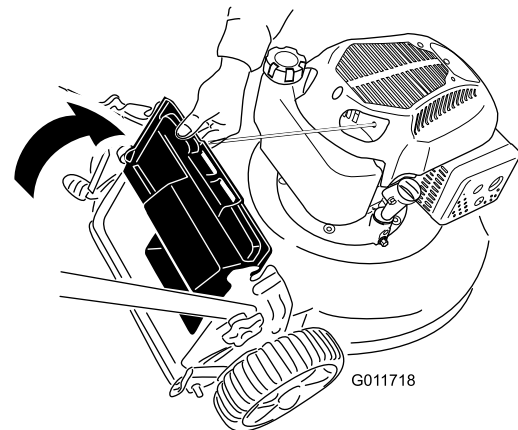

Figure 15
2. Lift up the rear deflector and hold it (Figure 15).